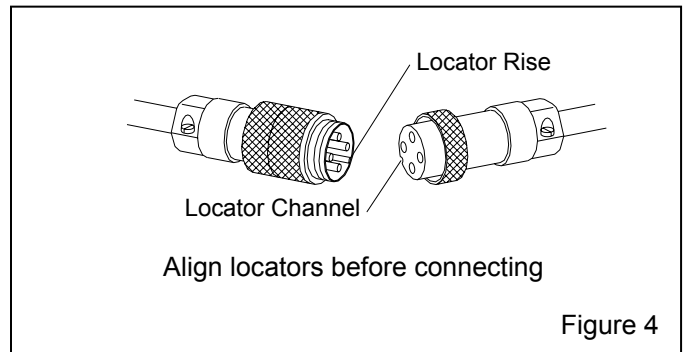

Figure 4
3.3 Connect the cable to the monitor and to the alarm. Before connecting the cable connectors, make sure they are correctly aligned by lining-up the locators of each connector, as shown in Figure 4. Route the cable to ensure that there will be no contact with ground traffic or high reach equipment.